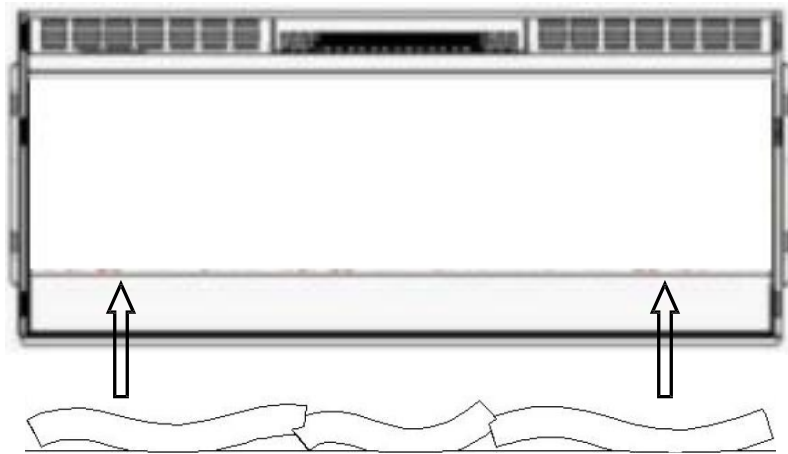

Figure 1.
C. Place unit face down on a soft, non-abrasive surface. Remove the bracket from the back of the unit by removing the screws, refer to Figure 1.
- B. If you want your fireplace with a log-set, remove the log-set from the package and put it to the designed slot in the fireplace as below. **Figure 1.**